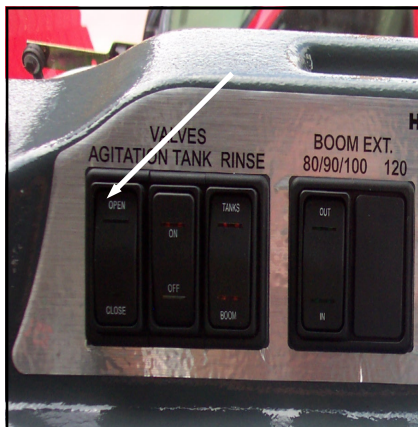
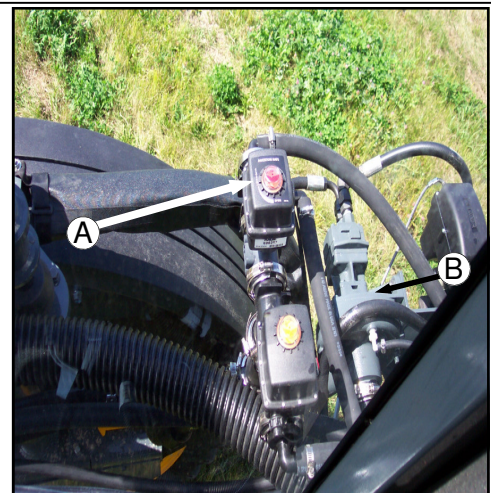

FIG 49-4
FIG. 49-3
**AGITATION**– The speed of the sparge agitation system is controlled by a variable flow solution valve (fig. 49-3, item A) mounted on the solution pump (fig. 49-3, item B). The agitation switch (fig. 49-4) on the right hand console controls the rate of flow through the sparge system. While watching the indicator on the agi-